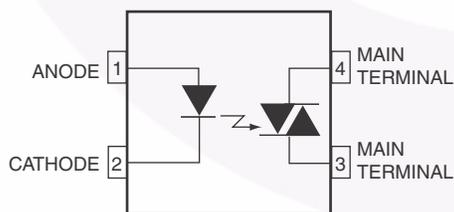

Figure 1. Functional Schematic
- This is static  $dv/dt$ . See Figure 1 for test circuit. Commutating  $dv/dt$  is function of the load-driving thyristor(s) only.